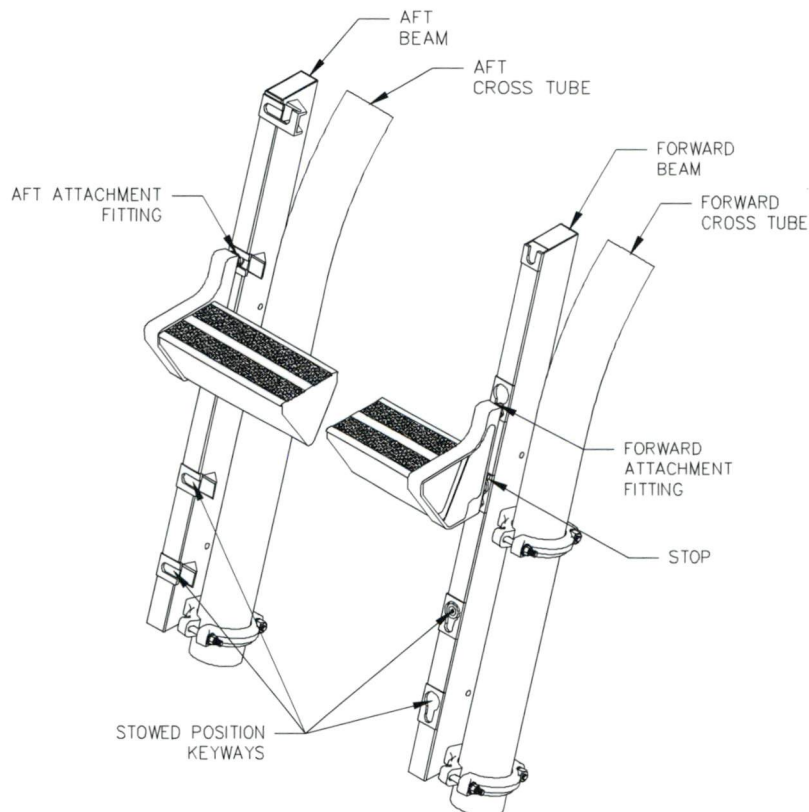

Figure 1 – Step Attachment Features
1. Installation - Refer to Figure 1.
2. Removal - Refer to Figure 1.